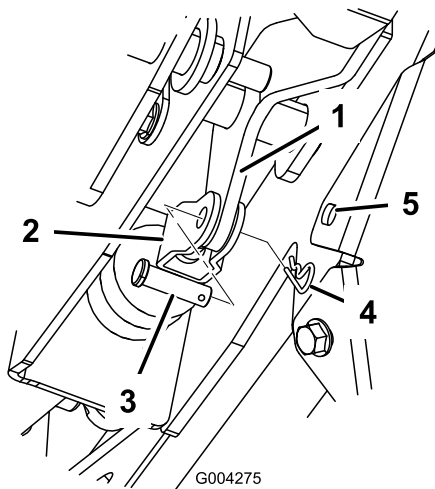

Figure 21
12. Remove the cotter and clevis pin securing the master cylinder linkage to the brake pedal arm (Figure 21).